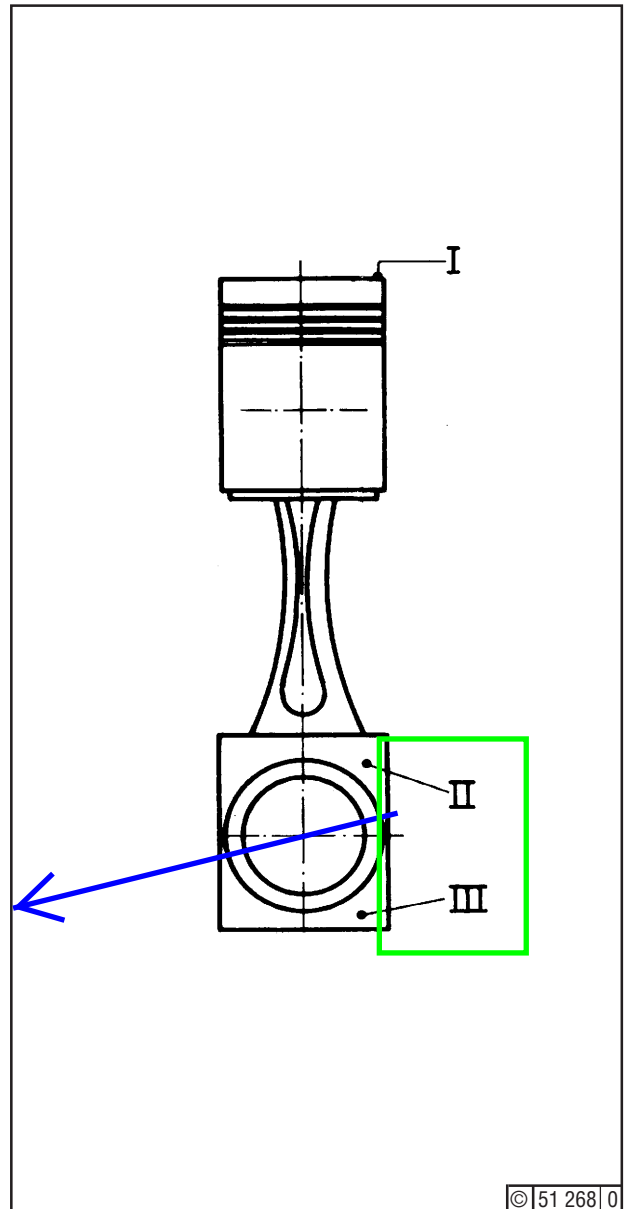

Fig. 1
When replacing a conrod by a new one, make sure that the cylinder No. is marked at the points "II" and "III", before assembling the conrod and the big-end bearing cap (see Fig. 1).
Install one circlip (6) in piston (7). Position rod by hoist so that, when introducing the rod into the piston, the cylinder Nos. marked on piston (I) and rod (II) are in line one above the other (see Fig. 1).